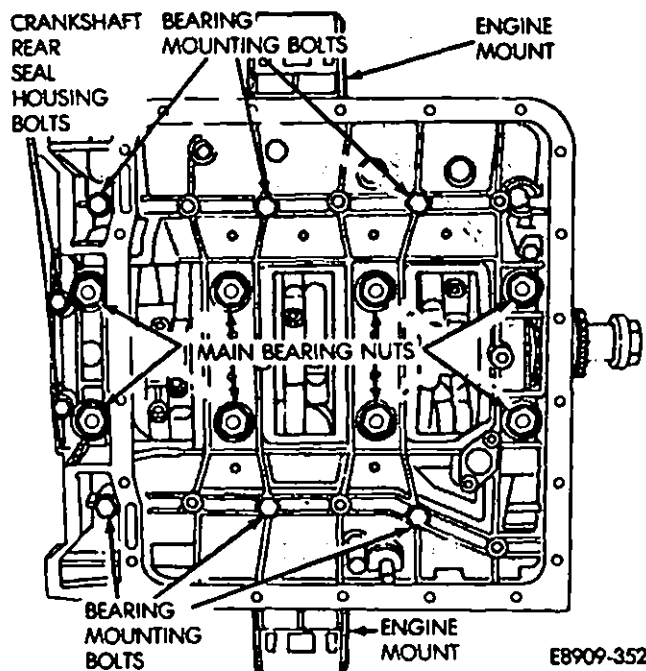
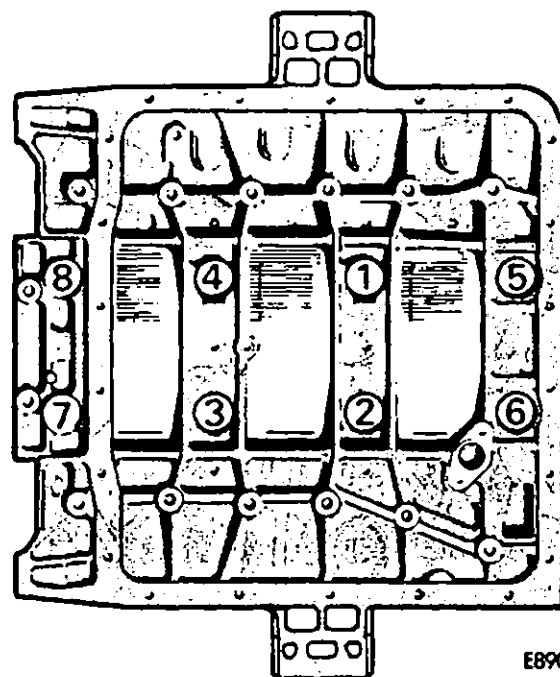
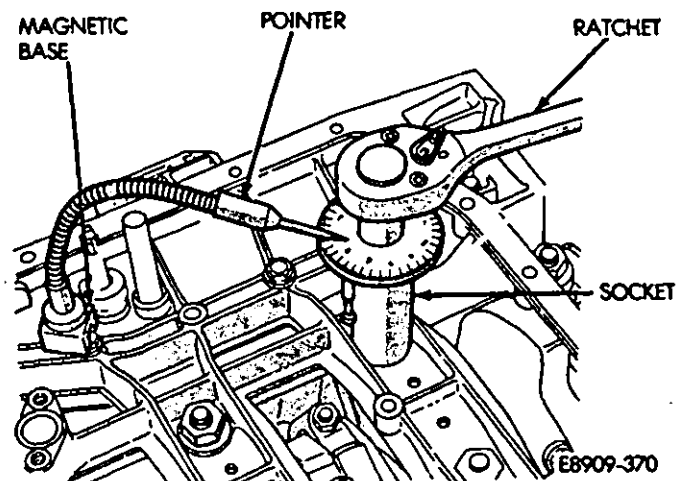

Fig. 25—Lower Casing
Fig. 26—Lower Casing Nut Tightening Sequence
Fig. 27—Lower Casing Angular Tightening
(24) Apply a bead of Jeep/Eagle Gasket-in-a-Tube to the mating surface of the cylinder block.
(25) Place the lower casing over the cylinder block and install the flat washers. Start the nuts onto the studs, but do not tighten them.
(26) Insert casing bolts into the bolt holes but, do not tighten them.
(27) Insert the casing to the rear seal housing bolts into the bolt holes but, do not tighten them (Fig. 25).
(28) Push the lower casing forward and using the bolts supplied, attach lower casing alignment plate (Tool 6140) with the machined bosses on the plate facing the rear of the engine. The bolts thread into the rear crankshaft seal housing mounting bolt holes. Slightly tighten the bolts.
(29) Pull the lower casing back against the alignment plate then proceed with tightening the casing nuts.
(30) Pretighten the nuts in the sequence shown to 30 N·m (20 ft-lbs) torque (Fig. 26).
(31) Starting at position #1 and proceeding in sequence.
- Attach an angular wrench (Tool 7321) between a socket and ratchet (Fig. 27).
- Attach the magnetic base of the pointer to another nut or bolt (Fig. 27).